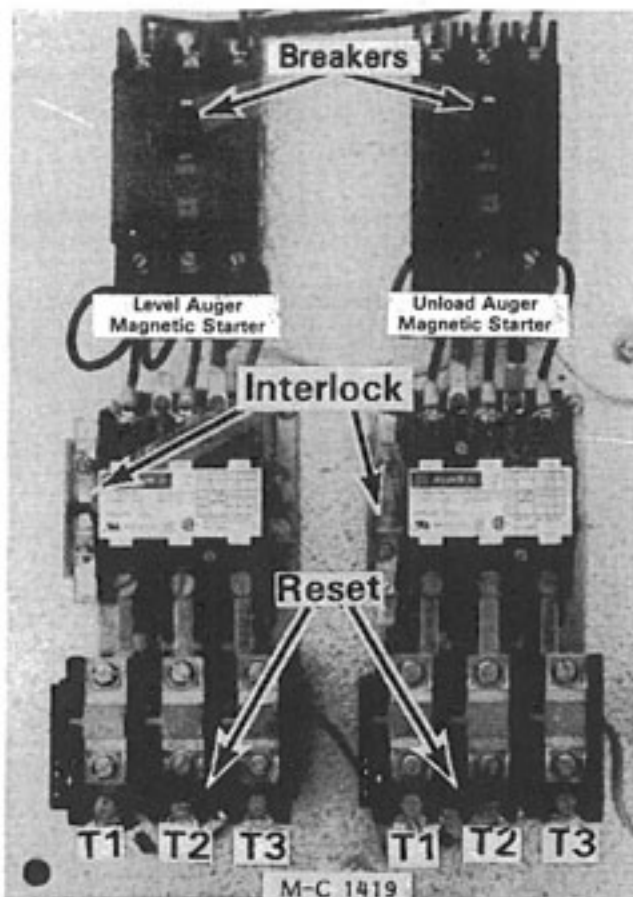

Figure 10 - Level and Unload Auger Magnetic Starters - 3 Phase 230V
- A. **Three phase motors** - Move the wire from terminal T1 to T3 and T3 to T1 on the magnetic starter in the lower control cabinet. See Figure 10.